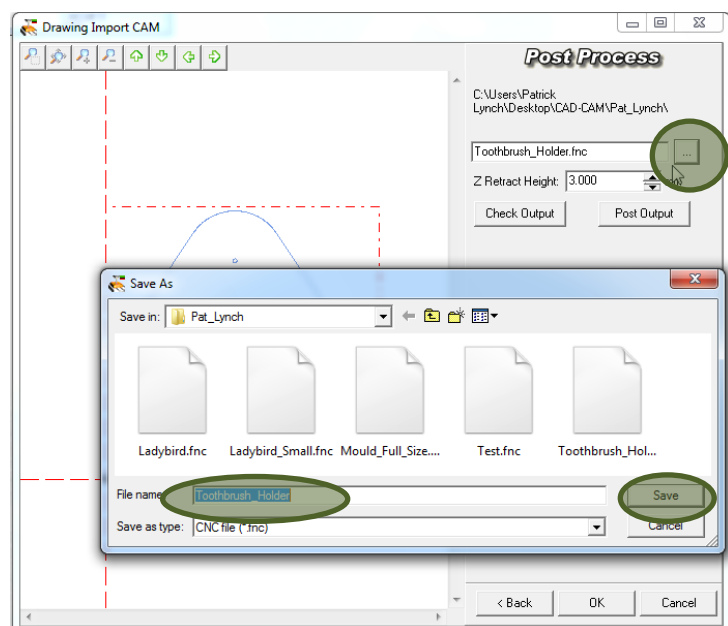

Figure 17
Machining instructions are now ready for post processing (Figure 17).
- Select the location for the file by clicking on the button to the right of the file name (Figure 17).